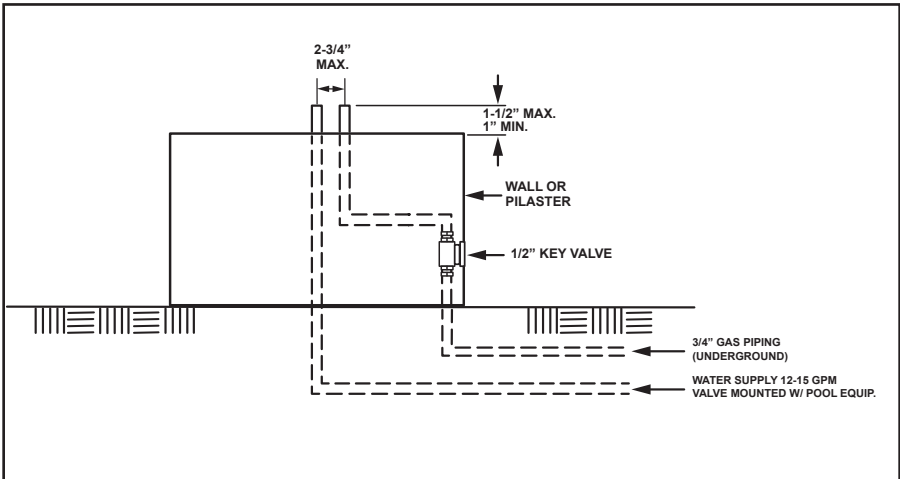
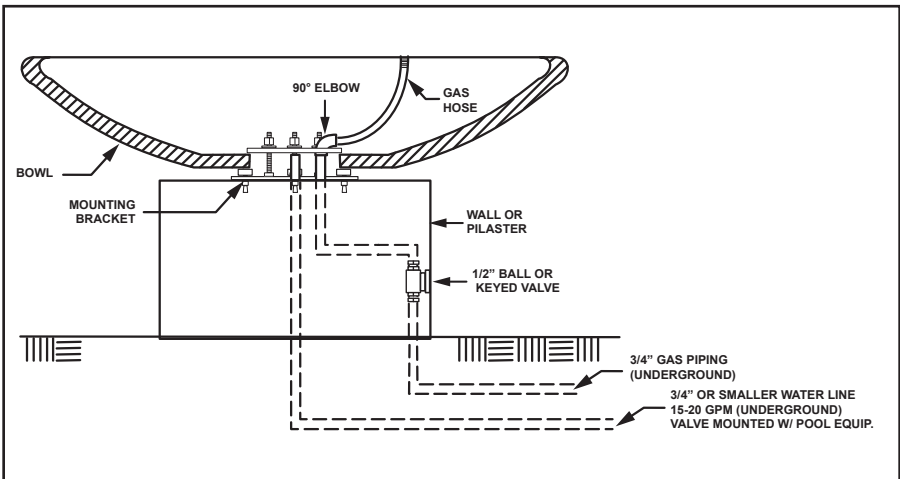
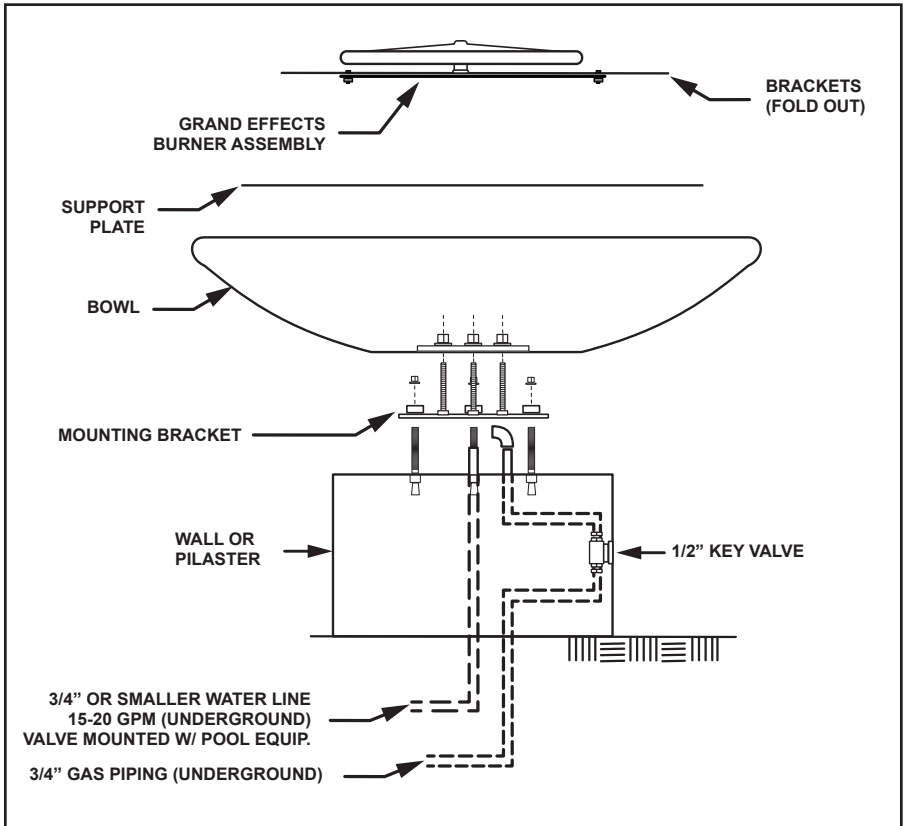

Figure 3. Piping
Figure 4. Mounting
Figure 5. Bowl Components
1. Attach the mounting bracket to the surface/floor. See Figure 4.
1. Install the Grand Effects® Unit as shown in Figure 3, Figure 4, and Figure 5.
2. The gas piping must be installed underground between each fire or water bowl, as shown in Figure 3.
3. The piping must be reduced to $\frac{1}{2}$ " NPT or larger at each bowl, as shown in Figure 3.
7. Install the mounting bracket as shown in Figure 4.
- b. Install the clamp ring onto the three (3) securing bolts and fasten to the bottom of the bowl using a nut and washer on each securing bolt.
9. Install a 3/8" 90° pipe elbow and gas hose at the gas connection as shown in Figure 4.
IMPORTANT: The mounting bracket must be installed for proper cooling of the burner assembly. Warranty may be voided if the mounting bracket is not installed. Do not kink or make sharp radius on the metal gas hose. Do not come straight up with the gas hose. As shown in Figure 4, a 90° gas pipe elbow must be installed on the gas line for proper installation of the gas hose.
The product warranty may be voided if the hose is not installed with an elbow as shown in Figure 4.
1. The height of the flame can be adjusted at each burner by opening or closing the 1/2" gas valve or keyed valve located at each column as shown in Figure 4.